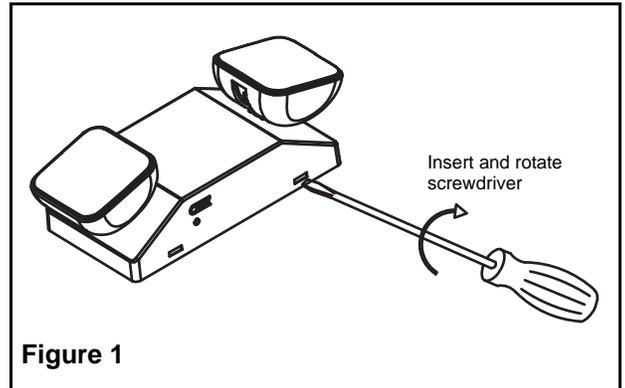

Figure 1
1. Using a flat head screwdriver, insert the blade into the two slots and rotate to remove the back plate (see figure 1).
1. Open front cover and remove the top knockout on the top flange of the fixture (see figure 1 and 4).